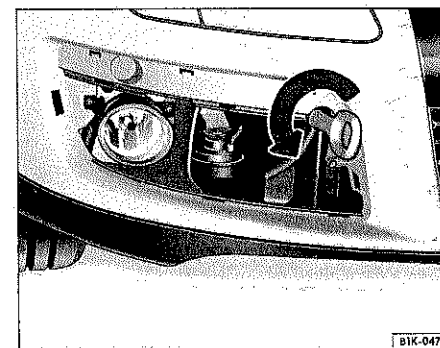

Fig. 51 The front right section of the vehicle: screwing in the towing eye.
- Screw the towing eye into the threaded hole as far as it will go, in the direction shown ⇒ fig. 51 (arrow). Use the lug wrench or other suitable tool to tighten the towing eye ⇒ ①.